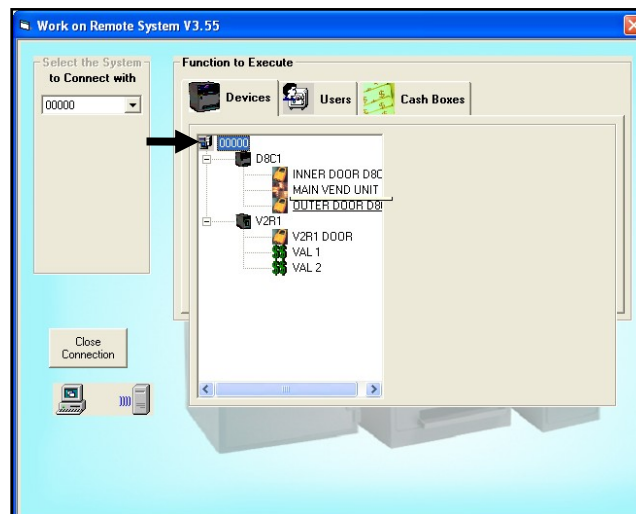

Fig. 8.15
- Selecting the serial number at the top of the list will open up a series of additional series of tabs with more options (Fig 8.15).